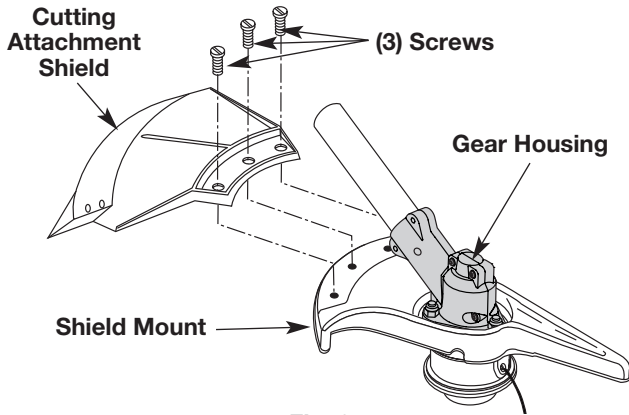

Fig. 6
Remove the cutting attachment shield from the shield mount by removing the three (3) screws with a flat blade screwdriver (Fig. 6). Store parts for future use.
Install the cutting attachment shield on the shield mount by inserting the three (3) screws into the shield mount. Tighten securely with a flat blade screwdriver (Fig. 6).